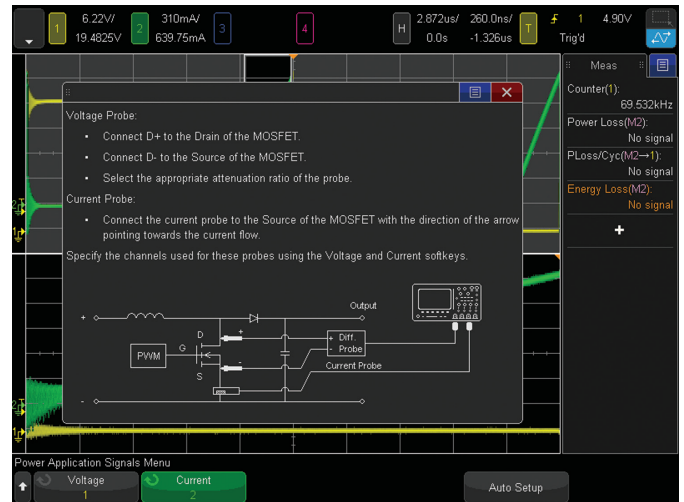

Figure 21. Slew rate measurement connections diagram.
4. Press the Signals softkey; then connect the N2790A voltage probe between channel-1 of the scope to the drain/collector (red lead) and source/emitter (black lead) of your switching transistor as illustrated in the on-screen connections diagram of Figure 21. If using Keysight's SMPS training kit, connect to TP3 (red lead) and TP4 (black lead).